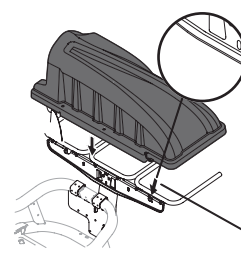

Figure 15
6. Install the bagger cover onto the hanger assembly, as seen in Figure 15. The cover goes inside the two mounting tabs.